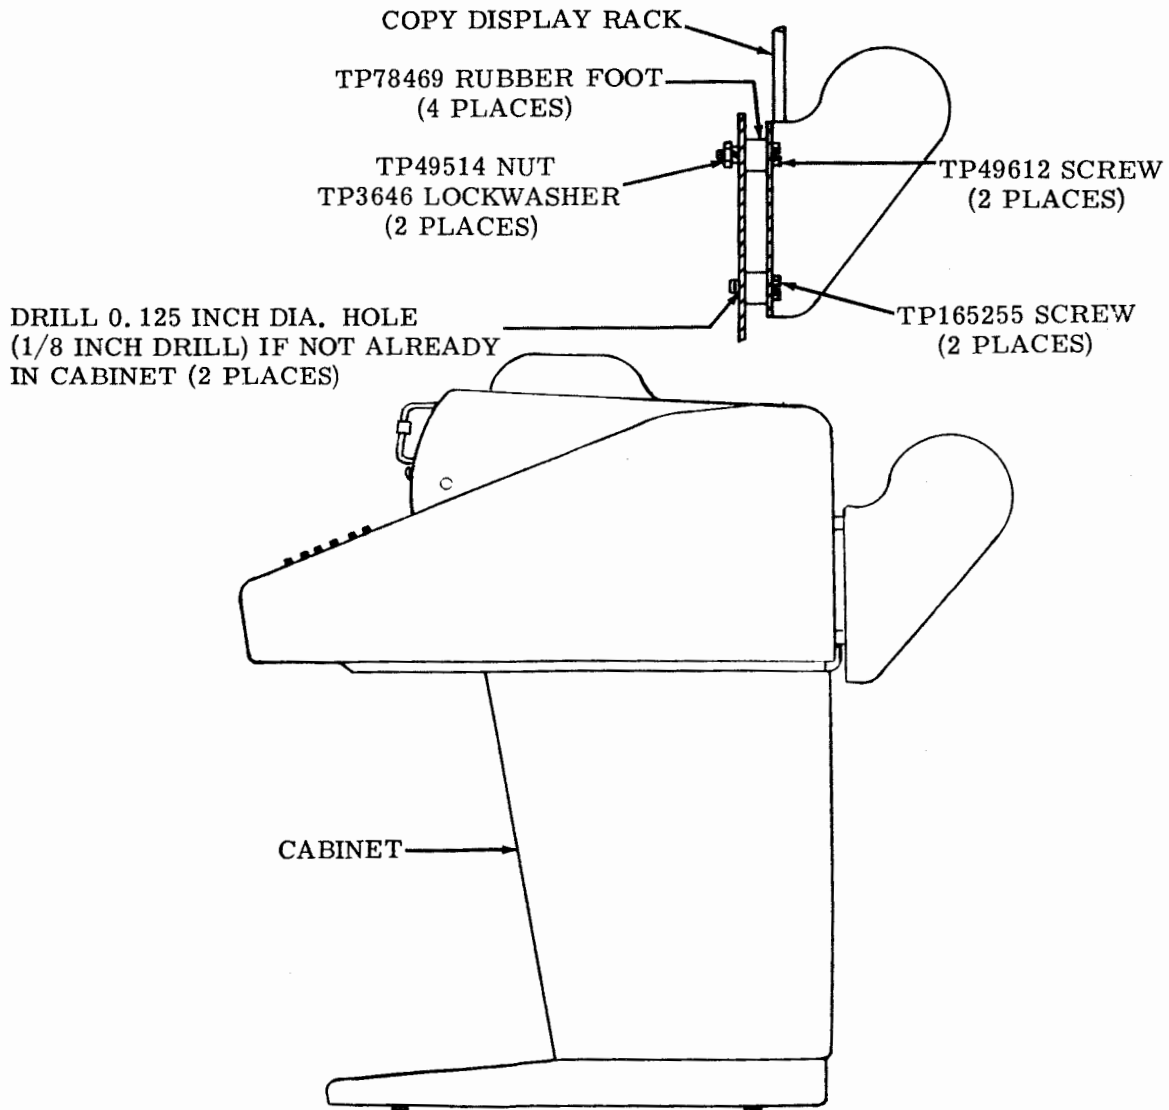

Figure 5 - Installing Paper Winder on 35 Console Cabinet
3.04 Install paper winder on 35 console cabinet as follows (Figure 5):